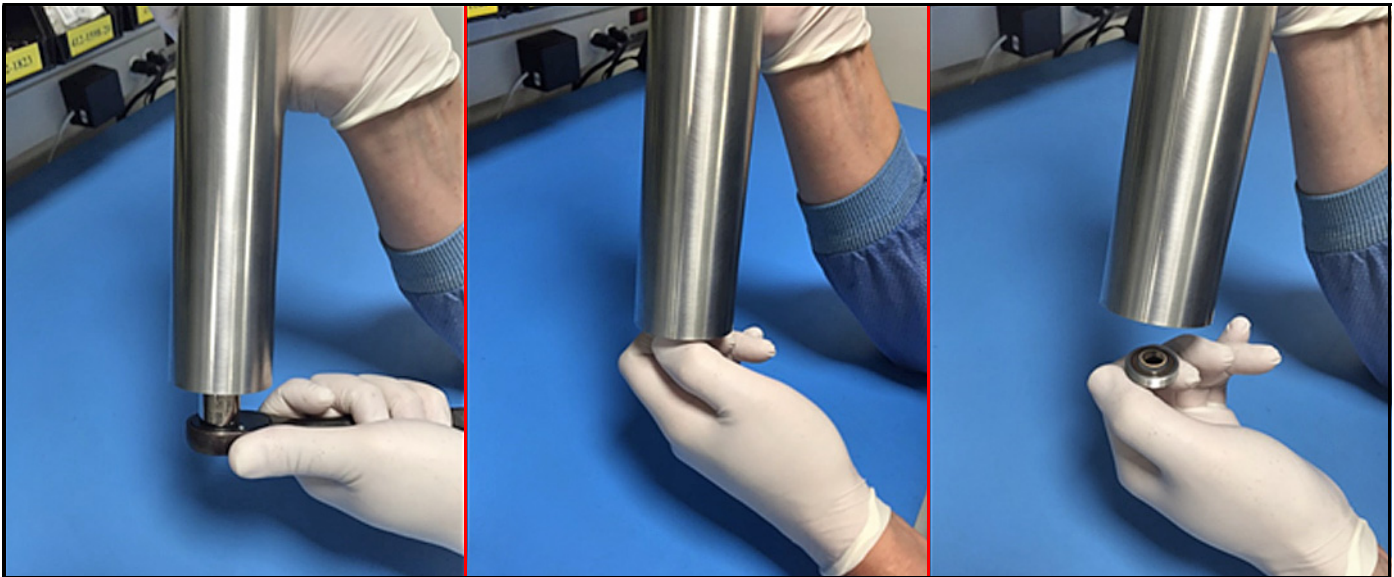

Figure 87: Removing Mirror End Cap Assembly from the Absorption Cell
1. Using a 5/8" socket wrench to loosen the hex head of the mirror assembly, gently unscrew the mirror assembly from the bottom of the absorption cell. While Figure 87 below shows this procedure for a dismantled cell, it is **NOT** necessary to dismount the optical absorption cell assembly to remove the mirror.